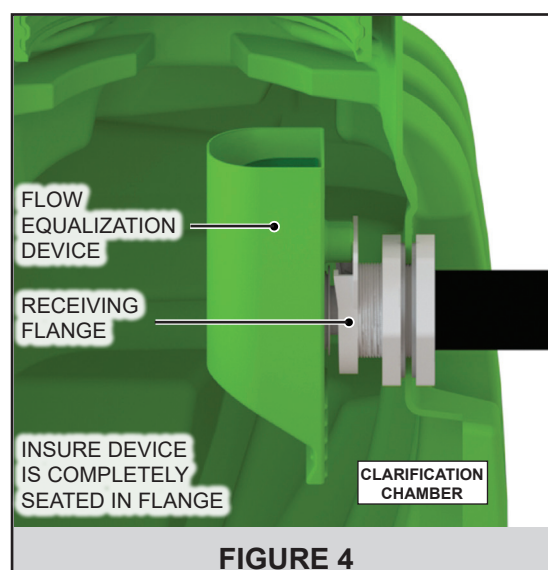

FIGURE 4
1. The flow equalization device will be installed in the tank receiving flange in the clarification chamber as shown in Figure 4.